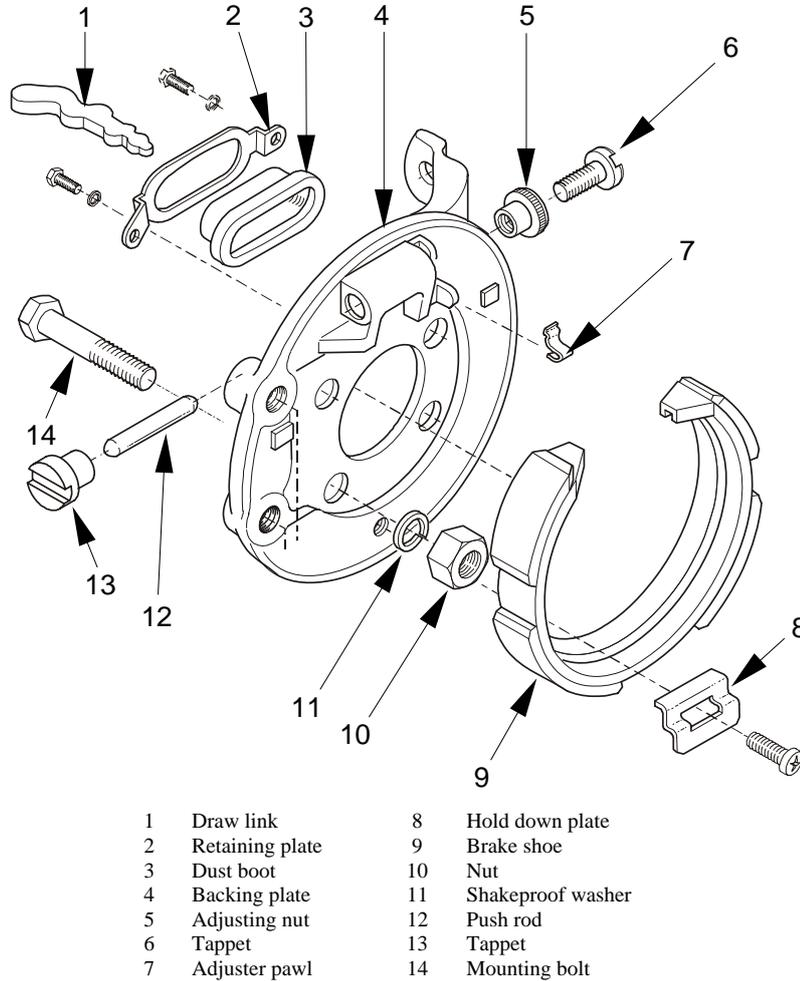

Figure 5 Park Brake Assembly – Exploded View
15. Park Brake Assemblies. The park brake assemblies (Figure 5), located at each wheel hub, are a 190 mm internal expanding single shoe and drum type. A brake shoe consists of a circular one-piece spring steel channel section with four strips of brake lining material, bonded at equidistant points around the outside of its circumference. Each shoe is held in position on the backing plate by a bracket at the bottom, and slots into the expander assembly at the top. The brake shoe backing plates are bolted to the axle flanges and the brake drums are incorporated with the service brake disc.